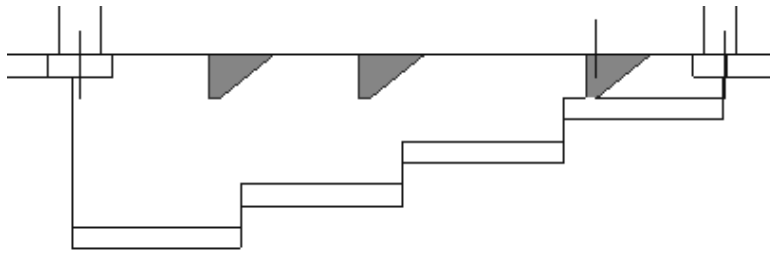

Figure 7-57
11. Return to the **North** elevation view. The three footings are still on the level where they were placed, as shown in Figure 7-57.